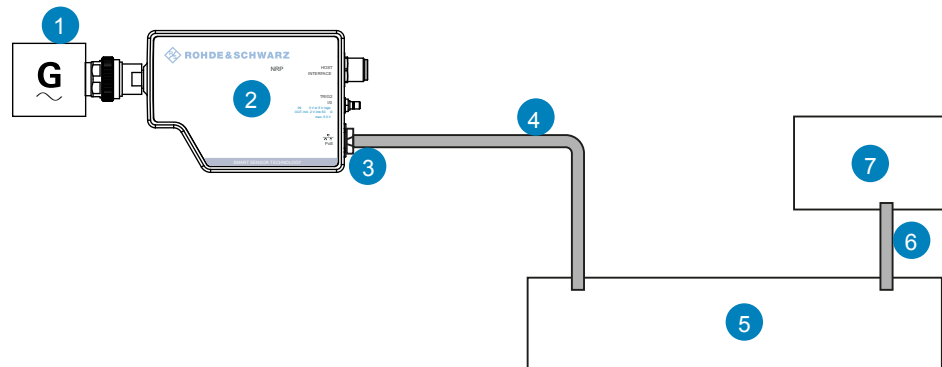

Figure 5-1: Setup with the web user interface
1. Connect the cables as shown in Figure 5-1.